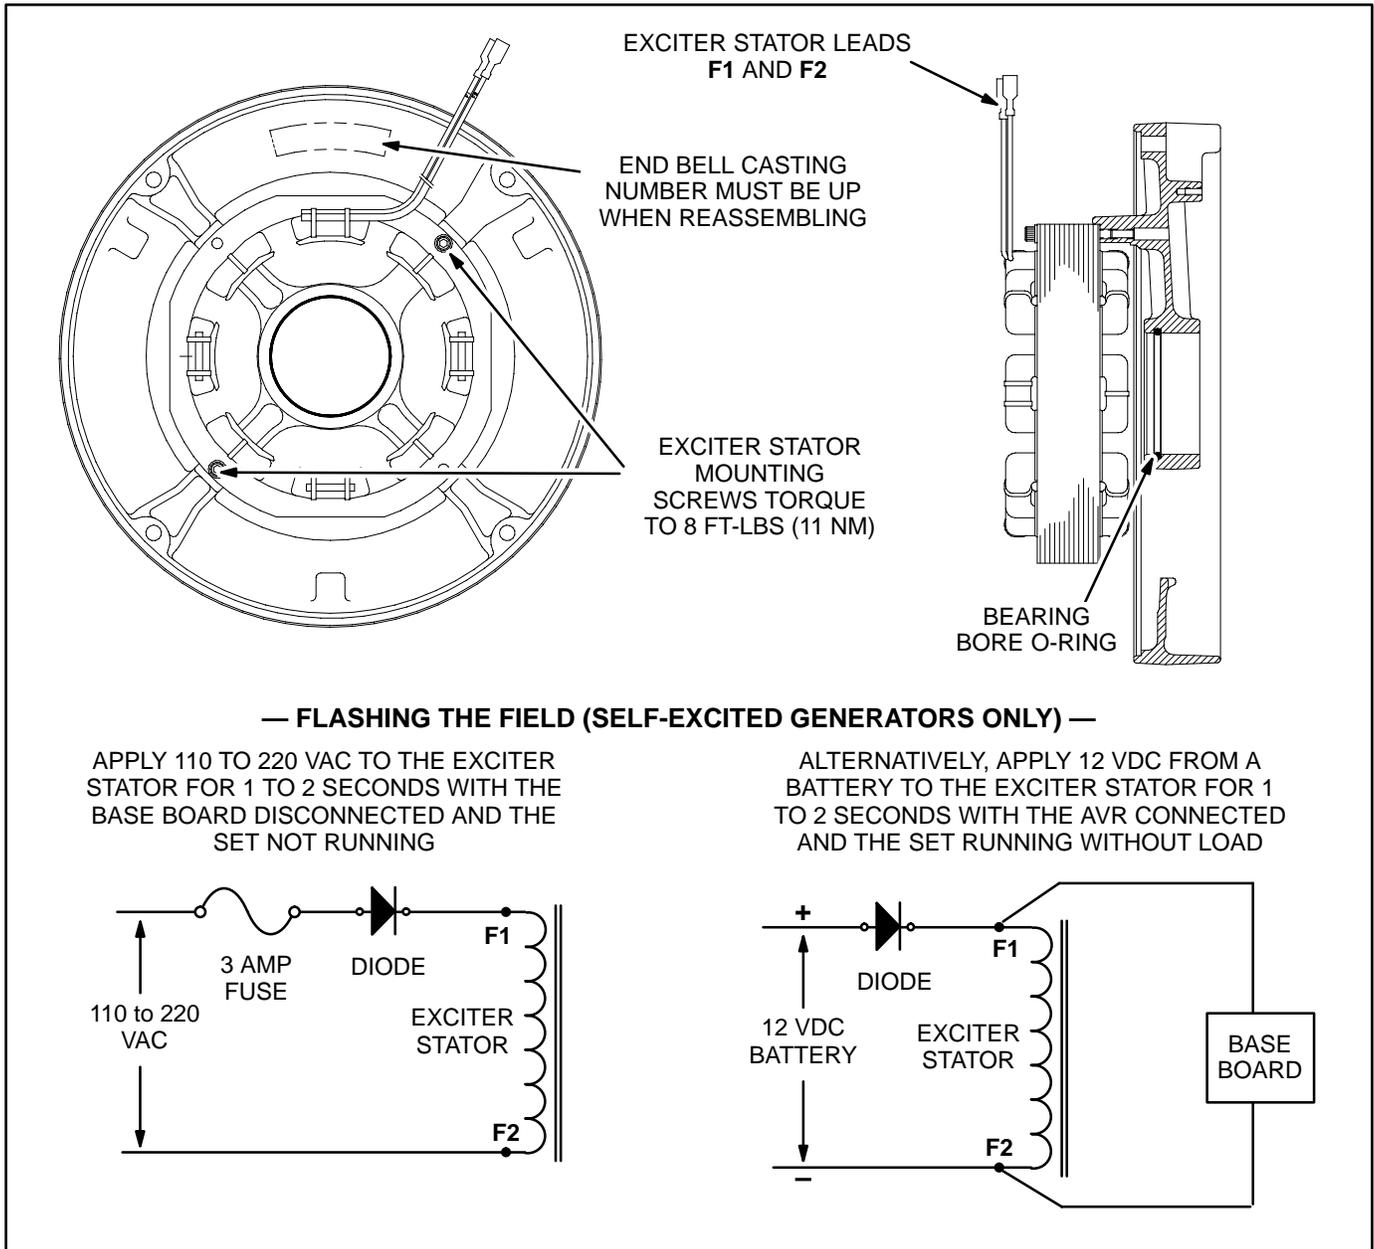

FIGURE 7-2. EXCITER STATOR AND END BELL
3. Mount the exciter stator in the end bell, and torque the two mounting screws to 8 ft-lbs (11 Nm). The leads must exit away from the end bell and be in the top half of the assembly (see Figure 7-2).